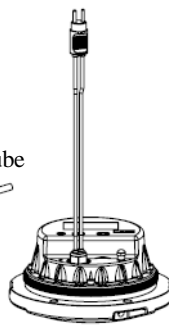

Figure 5-22
- Align the pin hole of the inner cover with the pin of the upper cover and connect it with M5×25 hexagon socket cap screws (Figures 5-22 and 5-19).
- After detection, release the air pressure in the lighting fixture with the air valve of the valve core, re-screw the valve cap and put it into use (Figure 5-22). In case of leakage, check the causes according to the previous prompts and repeat the whole lighting fixture disassembly and assembly process or return it to the factory for maintenance.